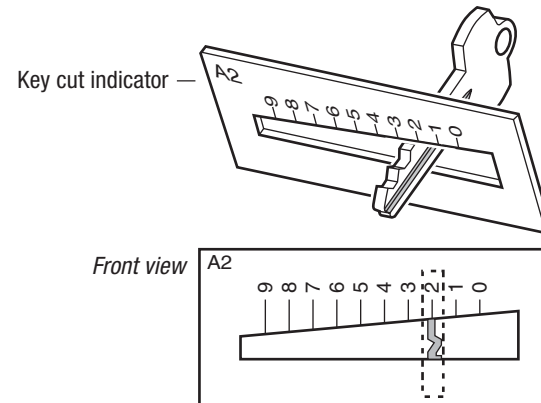

Figure 4 — Checking a key cut in the key cut indicator.
- 1 Insert your key into the key cut indicator as shown in figure 4.